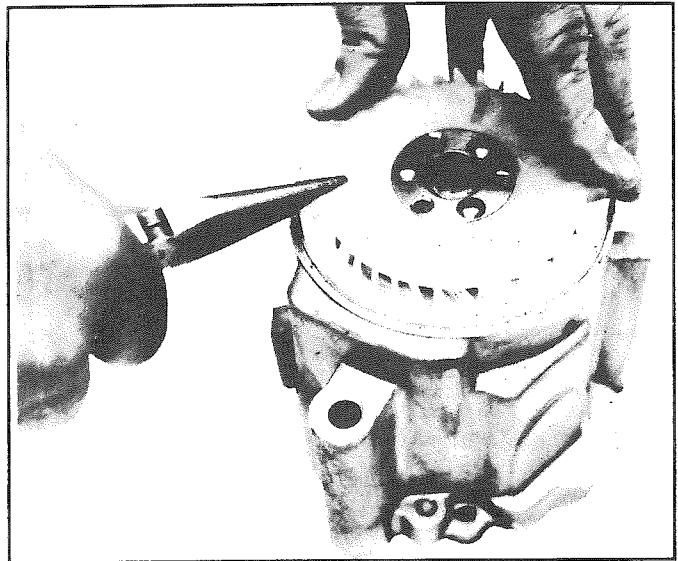

Figure 60 – Filter Fan Removal
2. Insert needle nose pliers and pull fan from hub (see figure 60).